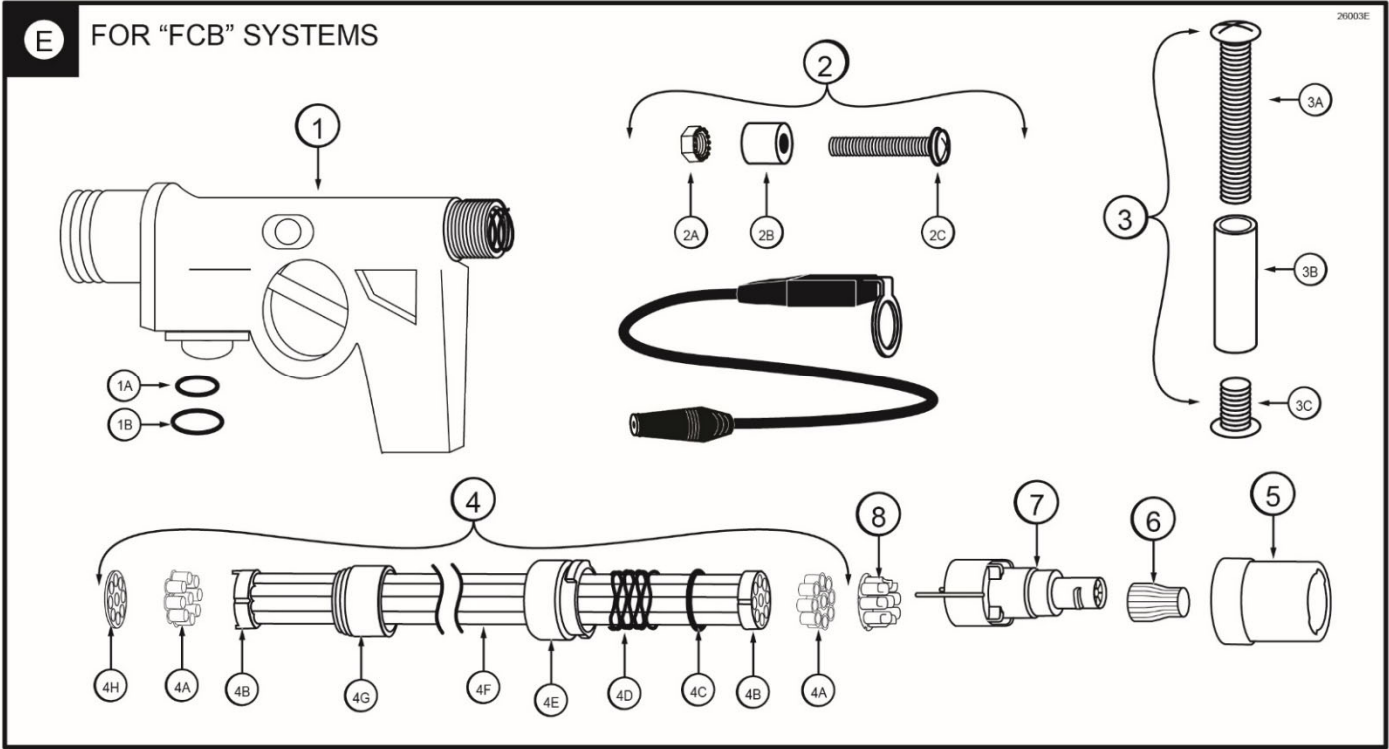

Figure 3E
**“FCB” Door Spout Assembly and Related Parts (See Figure 3E)**